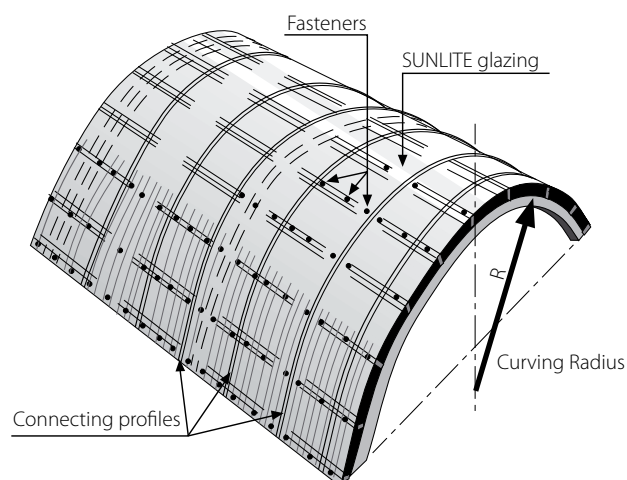

Figure 4
2. The sheets should be installed with the rib channels in the direction of the slope (Fig. 6), vertically in wall covering, or following the direction of the arched rafters (Fig. 4) in arched roofs. This will reduce accumulation of dirt and ease gravity drainage of condensation moisture inside the sheet.